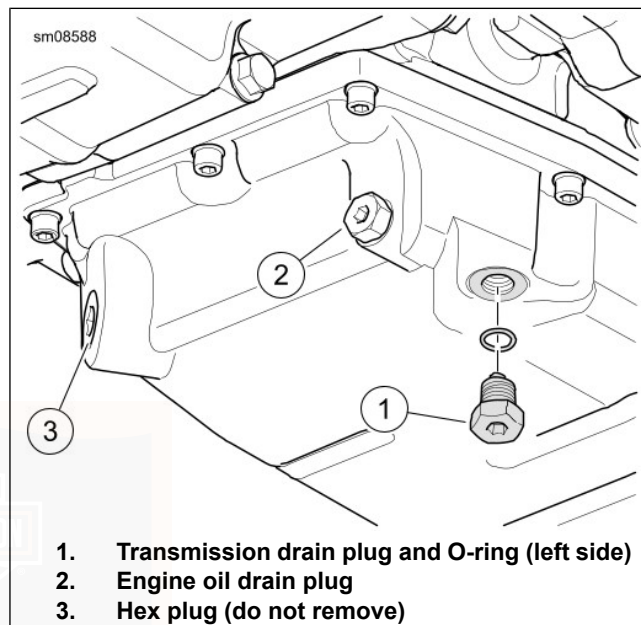

Figure 52. Transmission Drain
2. See Figure 52. Remove transmission drain plug. Drain transmission.